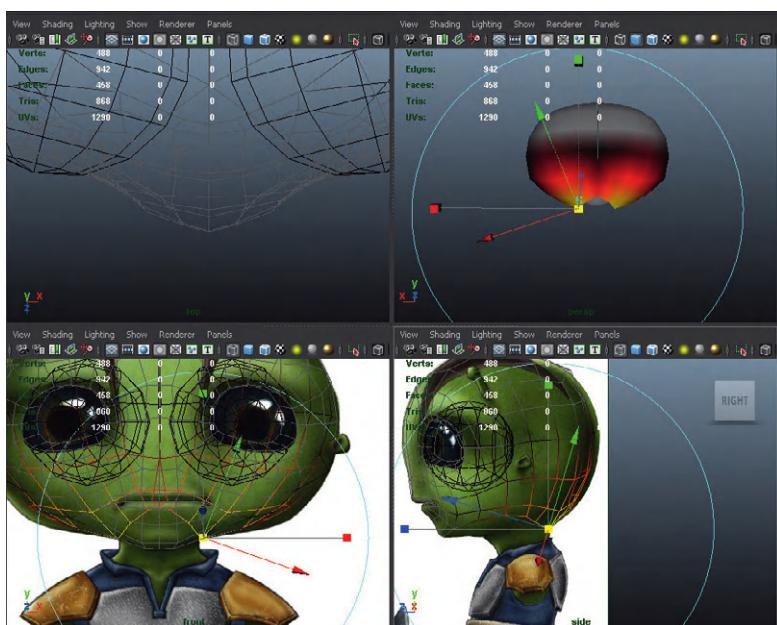

FIG. 4.41 Using the Soft Selection Tool to maneuver and tweak a mesh into place.
Step 59: Nudge the back of the head down toward the neck with the Soft Modification Tool. With the Soft Modification Tool activated, click on the back of the head. Notice that it will turn red, yellow, and black. Pressing and holding b and left-click-dragging will make the influence bigger or smaller. Resize it to approximate what's shown in **Fig. 4.41** and using the Move handles, slide the soft selection to the top of the neck.